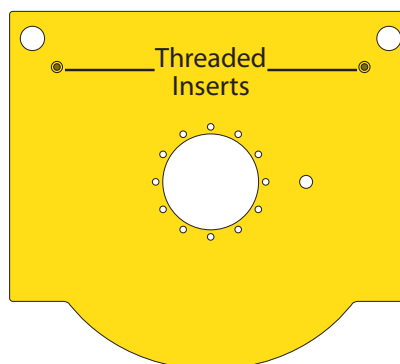

FIG. 24
Insert 2 Hex Head Bolts (G17) down through the Threaded Inserts on the Mounting Bracket (F). Finger tighten only [FIG. 24].